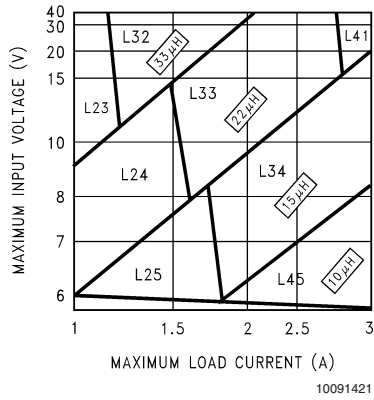
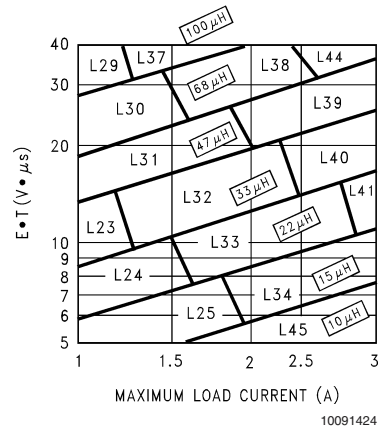

FIGURE 3. LM2676-3.3
FIGURE 6. LM2676-ADJ
Step 3: Determine the inductor required by using one of the four nomographs, *Figure 3* through *Figure 6*. Table 1 provides a specific manufacturer and part number for the inductor.
Step 5: Determine an input capacitor from Table 4 for fixed output voltage applications. Use Table 2 to find the specific capacitor type. For adjustable output circuits select a capacitor from Table 2 with a sufficient working voltage (WV) rating greater than $V_{in\ max}$, and an rms current rating greater than one-half the maximum load current (2 or more capacitors in parallel may be required).
Step 3: Use the nomograph for the 3.3V device, *Figure 3*. The intersection of the 16V horizontal line ($V_{in\ max}$) and the 2.5A vertical line ($I_{load\ max}$) indicates that L33, a $22\mu H$ inductor, is required.
Step 3: To use the nomograph for the adjustable device, Figure 6, requires a calculation of the inductor Volt•microsecond constant (E•T expressed in V•μS) from the following formula:
Using Figure 6, the intersection of 27V•μS horizontally and the 2A vertical line (I_{load} max) indicates that L38, a 68μH inductor, should be used.
Important Note: When using the adjustable device in low voltage applications (less than 3V output), if the nomograph, Figure 6, selects an inductance of 22μH or less, Table 6 does not provide an output capacitor solution. With these conditions the number of output capacitors required for stable operation becomes impractical. It is recommended to use either a 33μH or 47μH inductor and the output capacitors from Table 6.